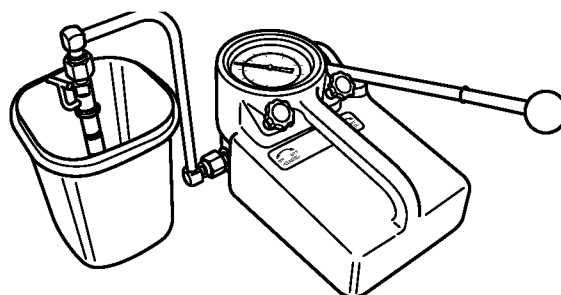

Figure 7-28
3. Using the correct adapter, connect a fuel injector to a nozzle tester. Aim the fuel injector into a suitable container to catch the fuel spray (**Figure 7-28**).